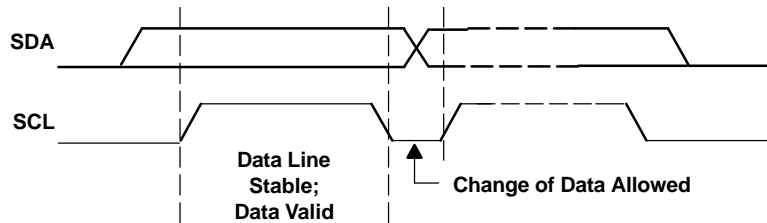
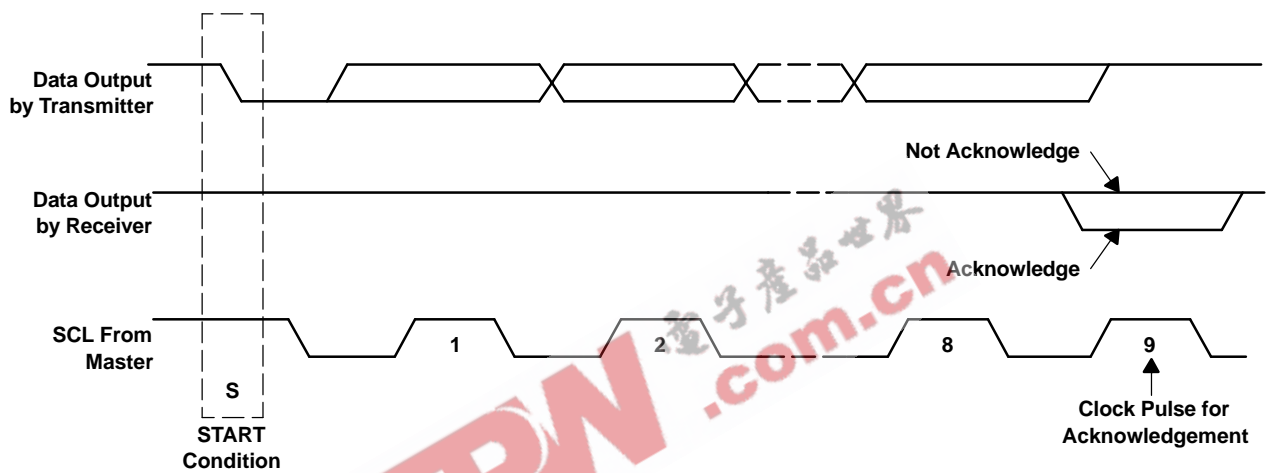

Figure 30. Bit Transfer on the I²C Bus
Figure 31. Acknowledge on the I²C Bus
- The master then generates the SCL pulses, and transmits the 7-bit address and the *read/write direction bit* R/W on the SDA line. During all transmissions, the master ensures that data is *valid*. A *valid data* condition requires the SDA line to be stable during the entire high period of the clock pulse (see Figure 30). All devices recognize the address sent by the master and compare it to their internal fixed addresses. Only the slave device with a matching address generates an *acknowledge* (see Figure 31) by pulling the SDA line low during the entire high period of the 9th SCL cycle. Upon detecting this acknowledge, the master knows that communication link with a slave has been established.